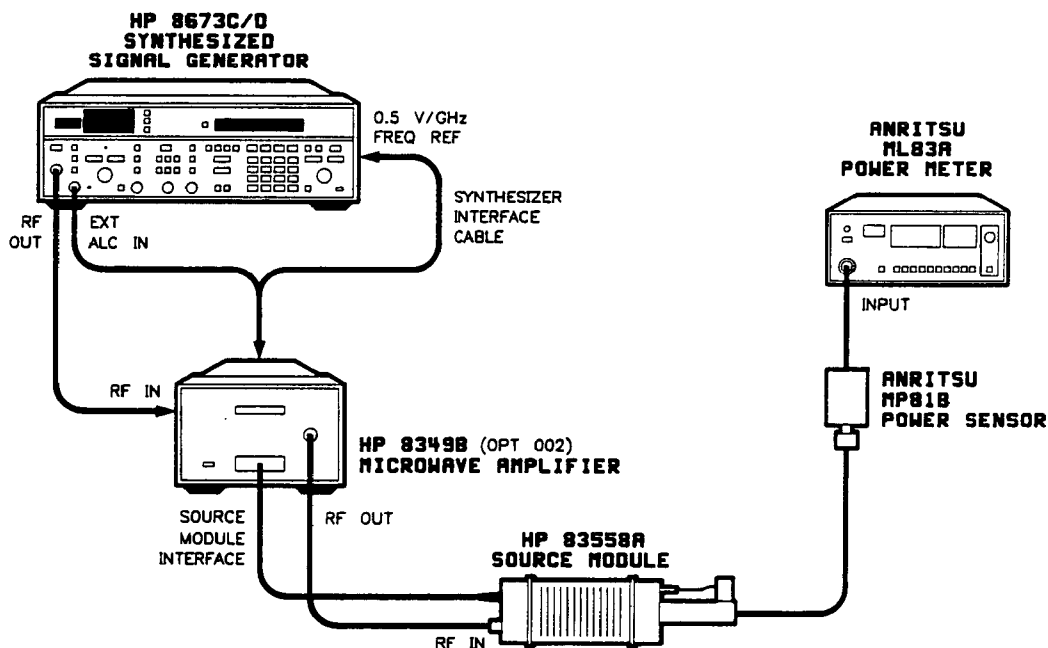

Figure 2d-3. System Configuration
1. Connect the equipment as shown in Figure 2d-3. Do not connect the power sensor to the HP 83558A output.